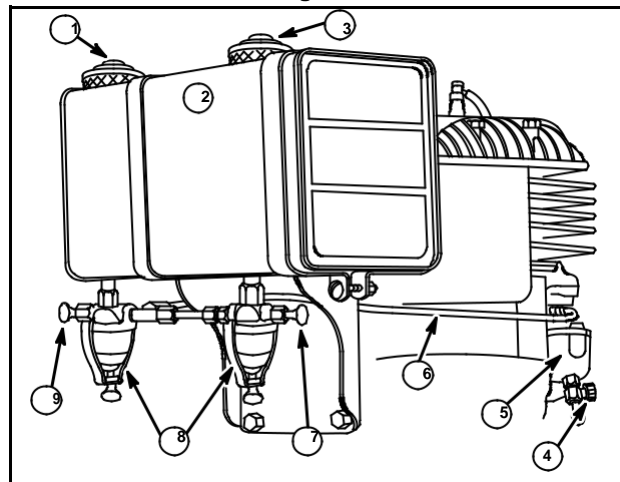

Fig. 161
Fig. 161 – To start the engine, open the petrol shut-off valve (7) and set the choke to the start position. Start and run the engine. Close the petrol shut-off valve. Open the kerosene shut-off valve (9) to continue operation.
NOTE: If the stop switch is used to stop the engine before it has stopped from lack of kerosene, the kerosene must be drained from the carburetor fuel bowl by opening bleeder screw (4), (Fig. 161), before restarting engine. Restart using petrol only.